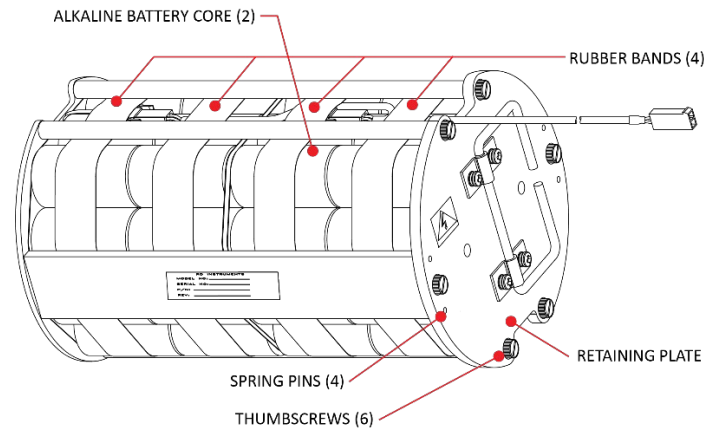

Figure 36. Battery Pack Modules
5. Slide out the used battery cores (Figure 36).
5. Remove the six thumbscrews on the top battery pack module's retaining plate and then use this plate to hold the lithium batteries in place (see Figure 36).